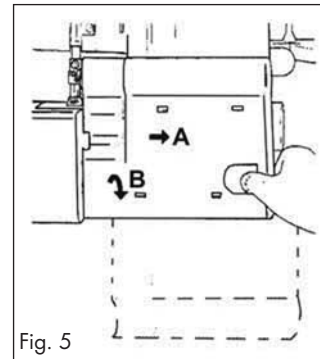

Fig. 5
- Slide the front flap ⑩ to the right (A) and then pull it towards you (B) (Fig. 5). You will see the upper looper behind the front flap ⑩.
① Note: